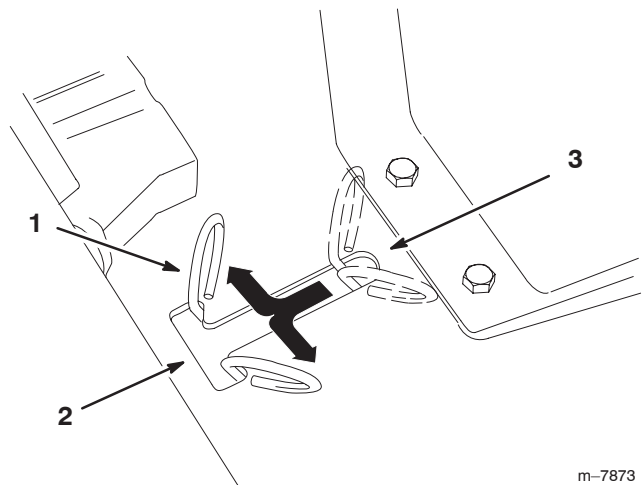

Figure 13
3. Raise the seat to access the bypass levers (Fig. 13).
4. Move the two bypass levers forward and then outward to lock them in place as shown in Figure 13.
Move the bypass levers to the inside and pull them rearward, to the end the slot (Fig. 13).